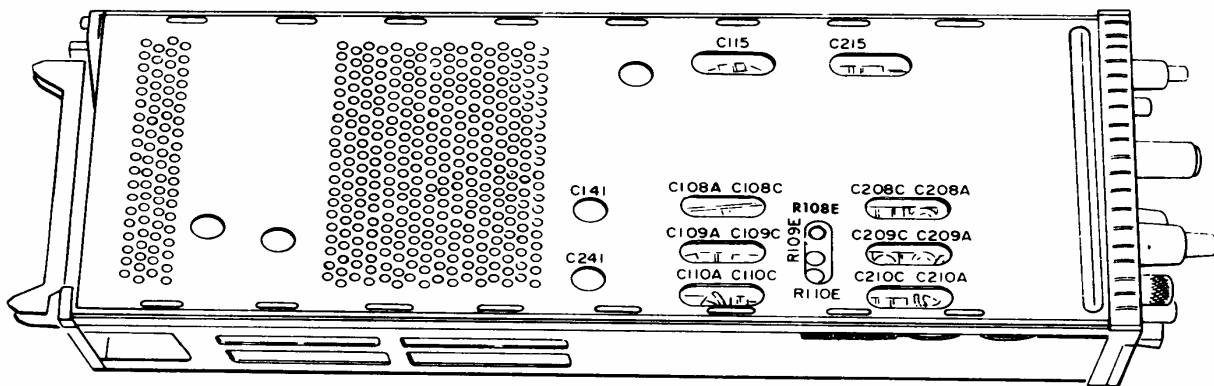

Figure 3. Adjustment locations - left side view (Type 7A22).
- (1) Connect oscilloscope calibrator **SOURCE/MEASURE CHAN 1** output to **TI +INPUT**, using termination.
- (2) Set **VOLTS/DIV** switch to 50 mV and **POSITION** control to midrange.
- (3) Press oscilloscope calibrator **EDGE** key and set oscilloscope calibrator output for 1 kHz and 5 divisions of vertical deflection on oscilloscope. If upper leading corner is not square, adjust C241 (fig. 3) for optimum square wave (R).
- (4) Remove connection from **+INPUT** and connect to **-INPUT**.
- (5) Press **-AC-GND-DC** pushbutton to **DC**. If lower leading corner is not square, adjust C141 (fig. 3) for optimum square wave (R).
- (6) Set **VOLTS/DIV** switch to .1 V.
- (7) Press **+AC-GND-DC** pushbutton to **DC** and **-AC-GND-DC** pushbutton to **GND**.
(8) Connect oscilloscope calibrator **SOURCE/MEASURE CHAN 1** output to TI **+INPUT**, using standardizer.
(9) Press oscilloscope calibrator **VOLTAGE** key and set oscilloscope calibrator output for 1 kHz and 6 divisions of vertical deflection on oscilloscope. Center displayed pulse vertically on crt.
(10) Adjust standardizer for optimum square wave. If optimum square wave cannot be obtained, adjust C115 (fig. 3) for optimum square wave (R).
(11) Repeat technique of (10) above for TI **VOLTS/DIV** switch settings and adjustments listed in table 8.
Test instrument VOLTS/DIV switch settings	Adjustments (fig. 3)
- (2) Set **VOLTS/DIV** switch to 50 mV and press + and -**AC-GND-DC** pushbuttons to **DC**.
- (3) Set oscilloscope time base **TRIGGER SOURCE** switch to **EXT**.
- (4) Press oscilloscope calibrator **VOLTAGE** key and set oscilloscope calibrator for a 50 V, 1 kHz output. If display on oscilloscope is not of minimum amplitude, adjust R108E (fig. 3) for minimum amplitude (R).
- (5) Repeat technique of (4) above for TI **VOLTS/DIV** switch settings and adjustments listed in table 9.